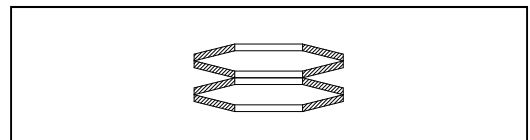

FIGURE 4. SPRING WASHER STACK ORIENTATION
1. Install the lower Grit-Guard™ seal (10) and shaft bearing (6).
2. Install the shaft cap bolts (16), shaft cap (15), thrust bearing stud (17), and spring washers (31) for the lower plug shaft. Note and stack the spring washers in the correct orientation as shown in Figure 4 below.